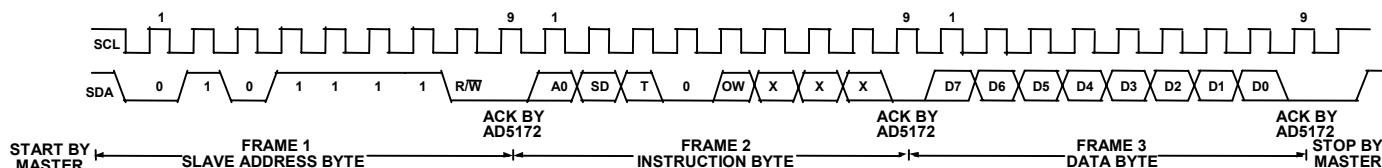
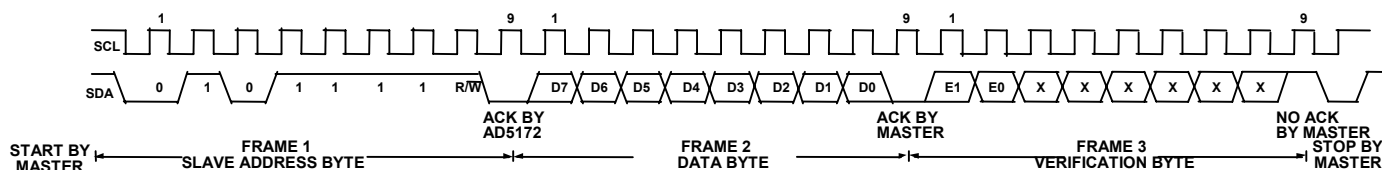
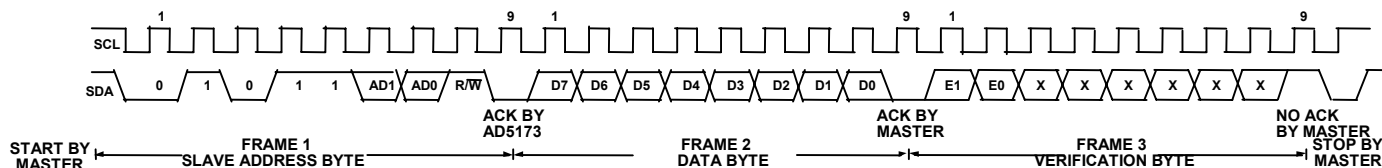

Figure 39. Writing to the RDAC Register – AD5172
Figure 41. Reading Data from a Previously Selected RDAC Register in Write Mode – AD5172
Figure 42 Reading Data from a Previously Selected RDAC Register in Write Mode – AD5173
After acknowledging the instruction byte, the last byte in write mode is the data byte. Data is transmitted over the serial bus in sequences of nine clock pulses (eight data bits followed by an acknowledge bit). The transitions on the SDA line must occur during the low period of SCL and remain stable during the high period of SCL (see Figures 39 and 40).
- In the read mode, the data byte follows immediately after the acknowledgment of the slave address byte. Data is transmitted over the serial bus in sequences of nine clock pulses (a slight difference with the write mode, where there are eight data bits followed by an acknowledge bit). Similarly, the transitions on the SDA line must occur during the low period of SCL and remain stable during the high period of SCL (see Figure 41 and Figure 42).
Note that the channel of interest is the one that is previously selected in the Write Mode. In the case where users need to read the RDAC values of both channels, they need to program the first channel in the Write Mode and then change to the Read Mode to read the first channel value. After that, they need to change back to the Write Mode with the second channel selected and read the second channel value in the Read Mode again. It is not necessary for users to issue the Frame 3 data byte in the write mode for subsequent readback operation. Users should refer to Figure 41 for the programming format.
- After all data bits have been read or written, a STOP condition is established by the master. A STOP condition is defined as a low-to-high transition on the SDA line while SCL is high. In write mode, the master will pull the SDA line high during the tenth clock pulse to establish a STOP condition (see Figure 39). In read mode, the master will issue a No Acknowledge for the ninth clock pulse (i.e., the SDA line remains high). The master will then bring the SDA line low before the tenth clock pulse which goes high to establish a STOP condition (see Figure 41).